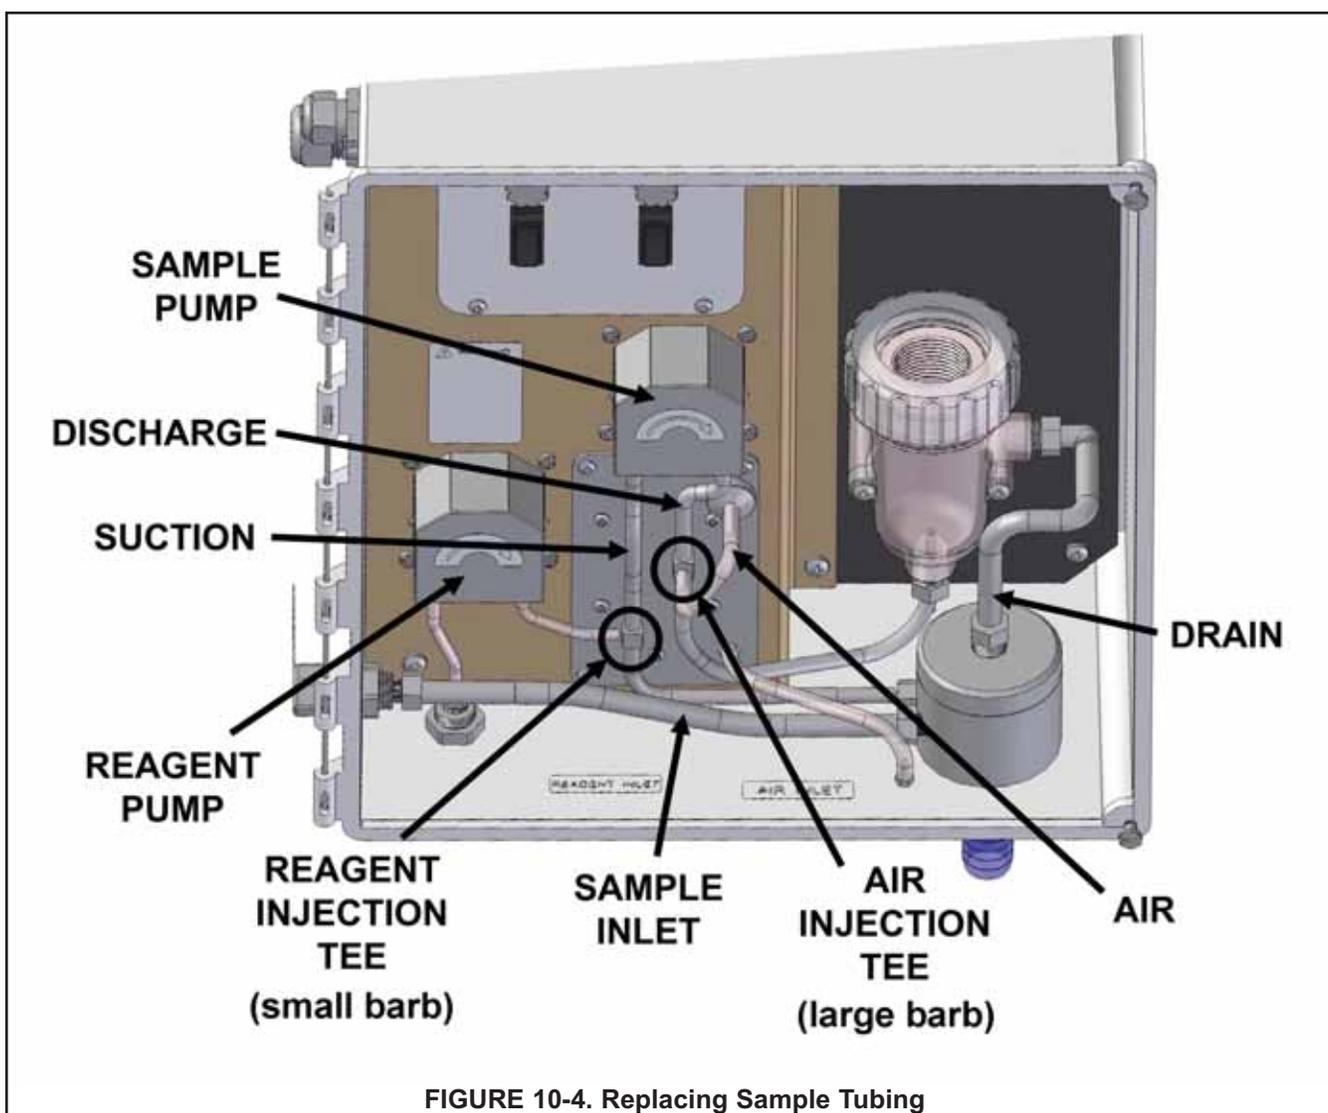

FIGURE 10-4. Replacing Sample Tubing
1. Sample tubing is shown in Figure 10-4.